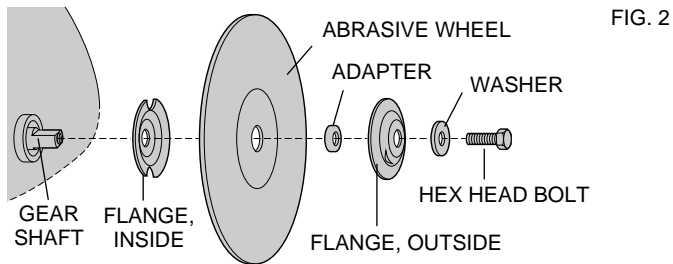

FIG. 2
- Remove the bolt, washer, outside flange, adapter, and old wheel (Fig. 2).